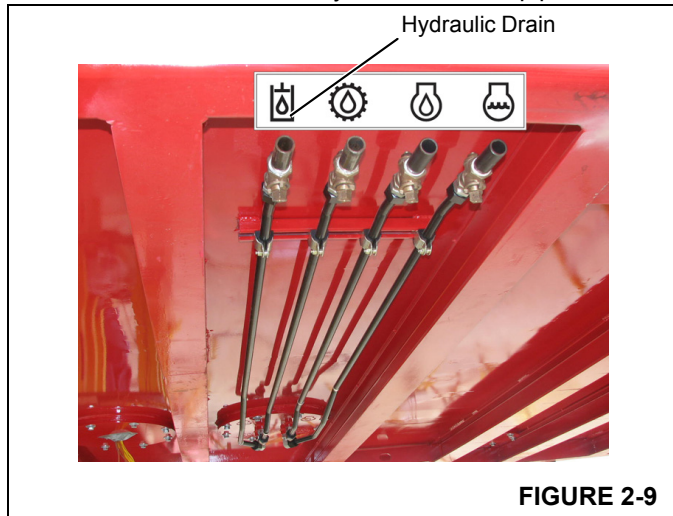

FIGURE 2-9
power plant enclosure (Figure 2-9). Insert end of hose into a suitable container to catch hydraulic oil. See Section 9 of this manual for hydraulic system capacity.
6. When tank is completely drained, close hydraulic tank drain valve (11, Figure 2-27) and let remaining hydraulic fluid drain from piping under the power plant enclosure. Then close drain valve under enclosure (Figure 2-9). Remove and store rubber hose.